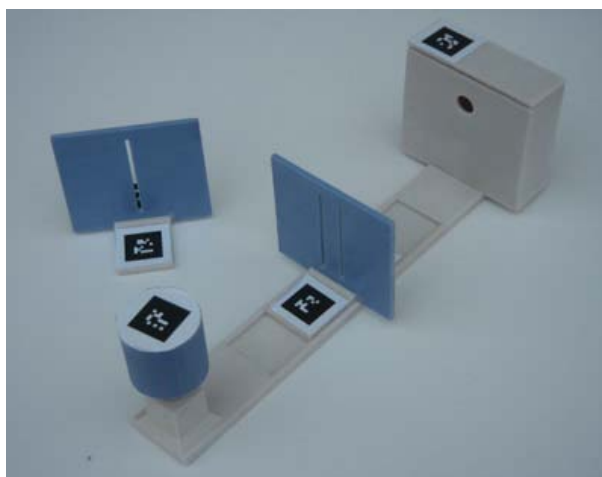

Figure 19
1. Set up the miniature as shown in figure 19 using either the single or double slit. The slit that is not in use should be out of the field of view of the webcam. The background box should be oriented so that the AR marker is to the left.